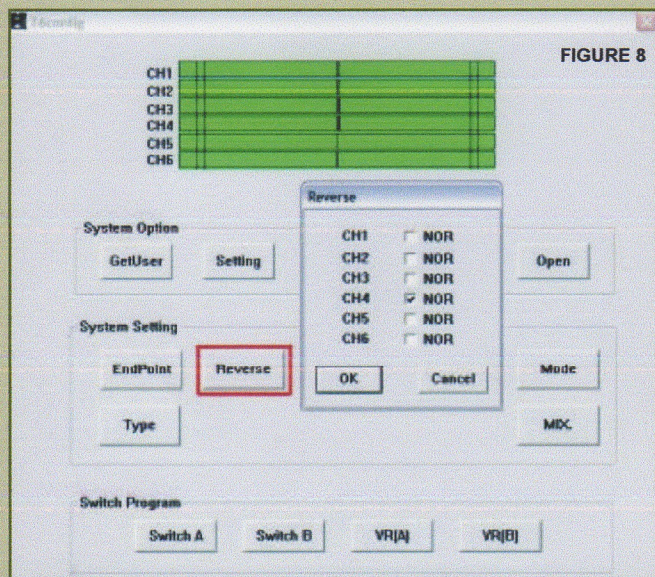

FIGURE 8
4. You can reverse any of the channels by selecting "reverse" (**Figure 8**) and selecting or deselecting as required.